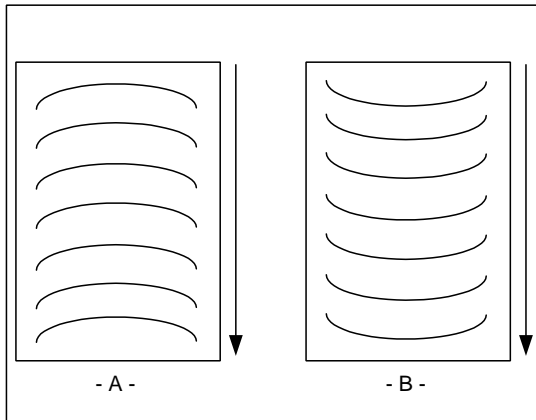

Fig. 24
1. “D” waves in the image (Fig. 24 A&B).
2. “D” waves in the laminate (Fig. 24 A&B).